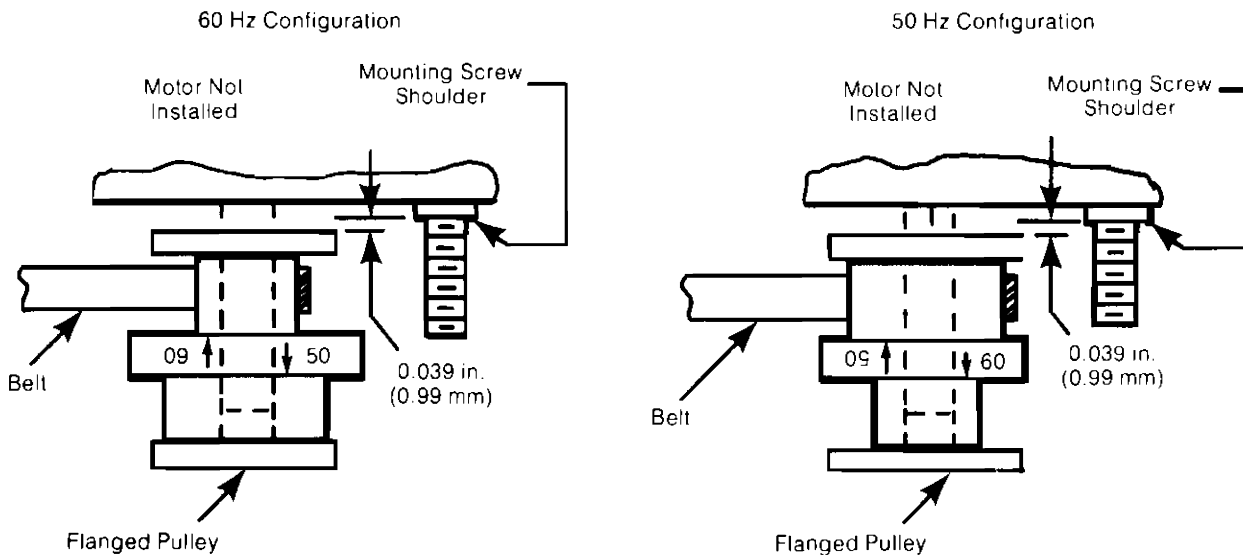

Figure 3-15. Drive-Pulley Reversal
6. Position pulley allowing clearance of 0.039 inch, ± 0.010 inch between shoulder of motor mounting screws and pulley (Figure 3-15).